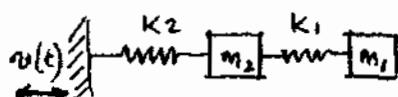

Fig. 1
8. Write the equation of motion of the two degree of freedom system shown in fig.1 subjected to a support motion.